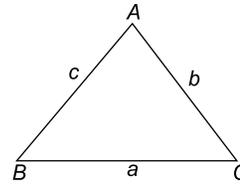

Figure 1.6
For the triangle  $ABC$  shown in Figure 1.6,
**Problem 8.** In Figure 1.6, if  $a = 3$  m,  $A = 20^\circ$  and  $B = 120^\circ$ , determine lengths  $b$ ,  $c$  and angle  $C$ .
**Problem 9.** In Figure 1.6, if  $b = 8.2$  cm,  $c = 5.1$  cm and  $A = 70^\circ$ , determine the length  $a$  and angles  $B$  and  $C$ .
In problems 1 to 4, refer to Figure 1.6.